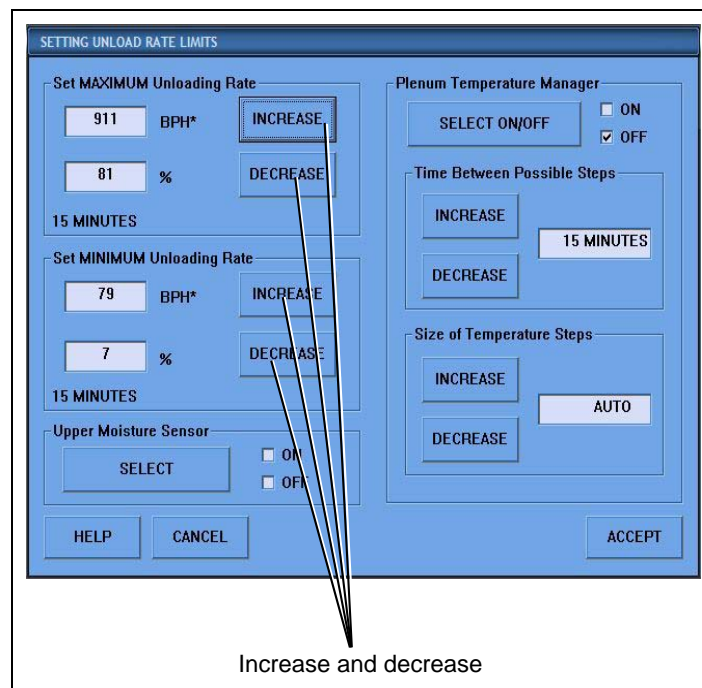

Figure 3E Set Unload Rate Limits Screen
5. On the Set Unload Rate Limits screen, set the maximum unloading rate to 100% and the minimum unloading rate to 0% by using the Increase or Decrease buttons. (See Figure 3E.) Touch the ACCEPT button to enter or “lock” these values into the Vision computer.